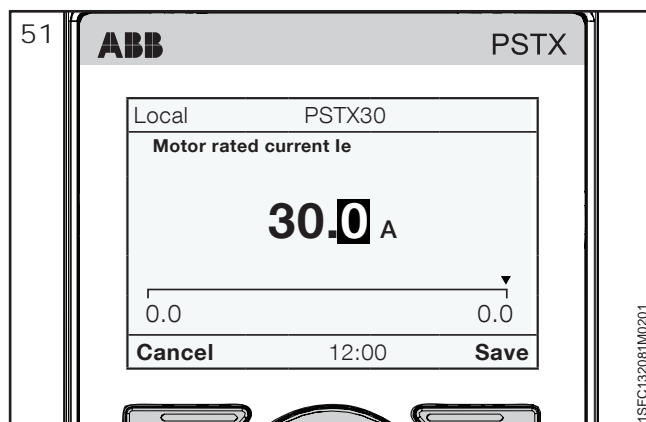

Figure 51: Motor current  $I_e$
1. The Home view is the top level. Press  "Menu" to enter the menu. The display now appears as in **Figure 51**.
**See Figure 51.** If you want to quit, you select  "Cancel".